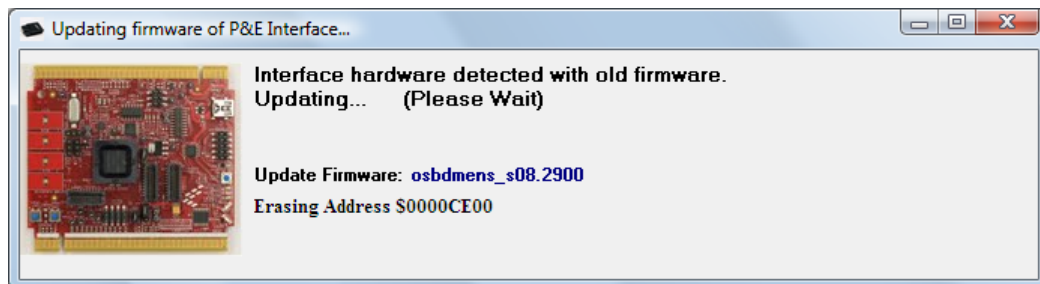

Figure 25: OSBDM update in progress
- Press the *Update Firmware* button. You should get a progress dialog similar to Figure 25